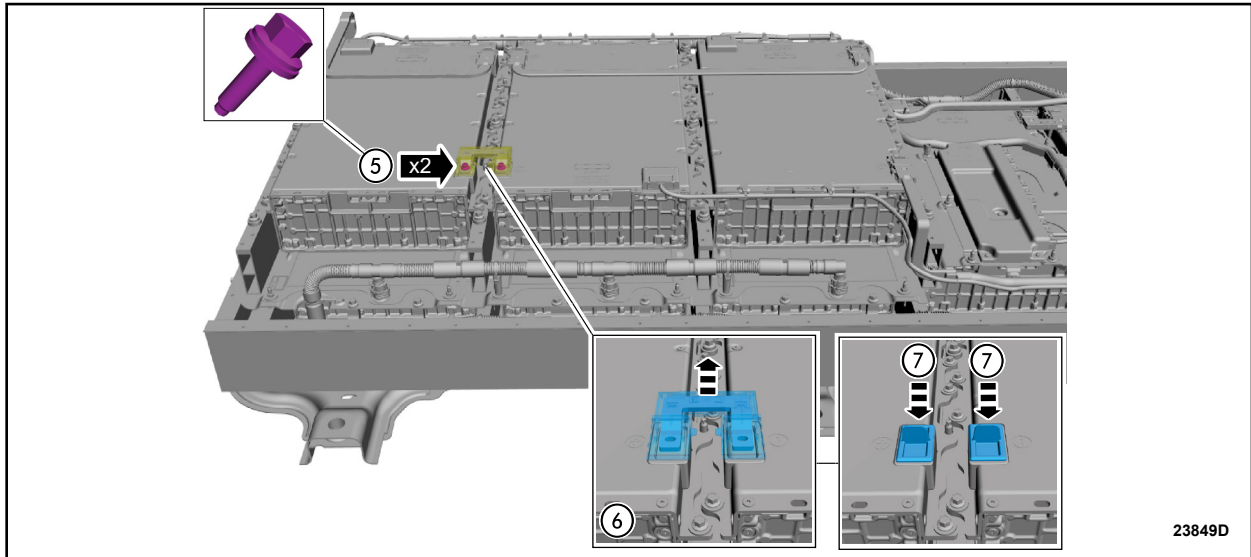

FIGURE 4
6. Open the terminal covers and remove the bolts. See Figure 4.
7. Remove the bus bar. See Figure 4.
8. Install the battery module terminal covers. See Figure 4.